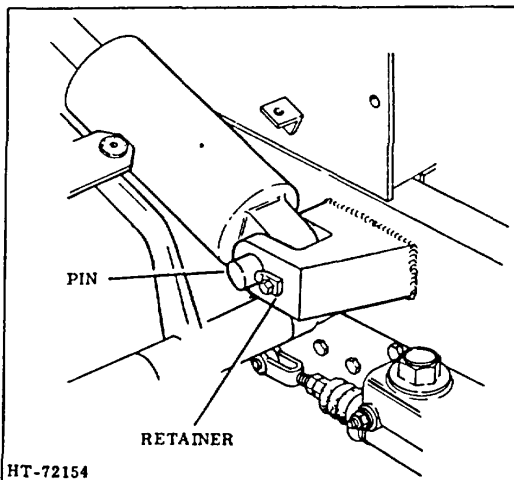

Figure 6. Tilt Cylinder Anchor Pin
5. Remove capscrew and pin retainer (Figure 6).